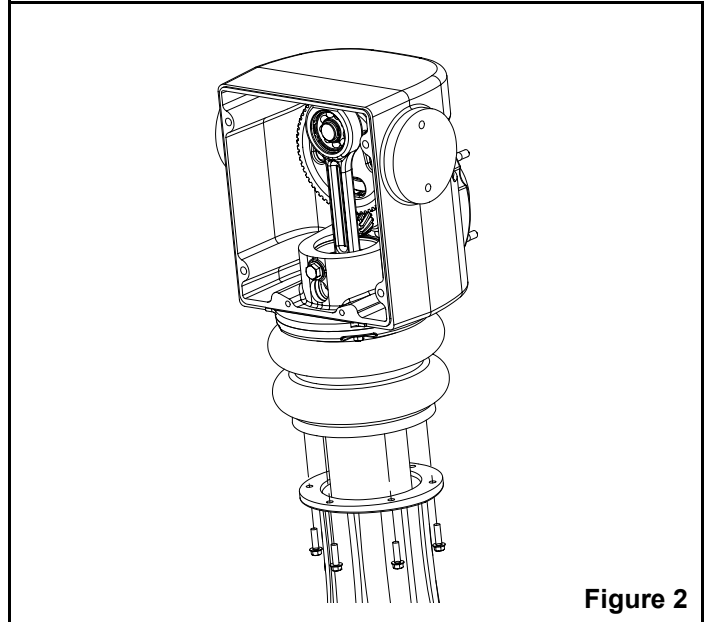

Figure 2
9. Remove the gearbox assembly from the lower unit assembly. See Figure 2.